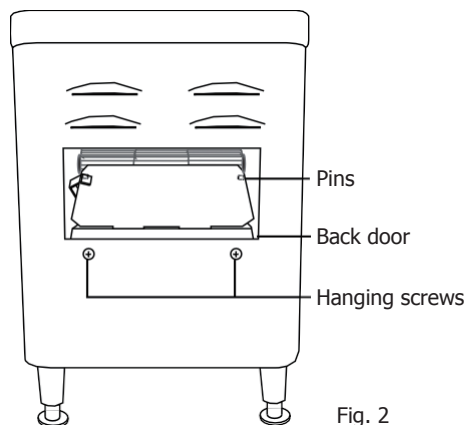

Fig. 2
2. Fix it inside the appliance by resting the curved lip of the door on the two pins at the end of the belt [Fig. 2].